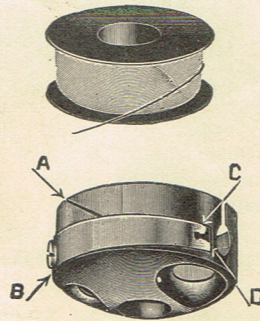

Figure 12
Thread the bobbin case as shown in Figure 12, page 10. Do not allow dust or dirt to collect under bobbin case spring.
If for manufacturing or special work of any sort it is desirable to alter the tensions, the lower tension can be increased or diminished by adjusting the screw (B) which holds the tension spring on the bobbin case (Figure 12, page 10). Turn this screw to the right to increase tension, to the left to diminish.